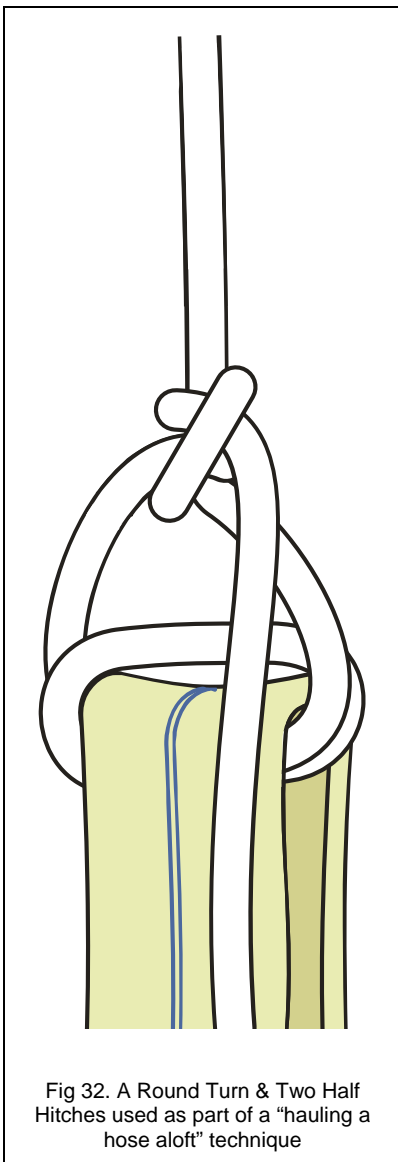

Fig 32. A Round Turn & Two Half Hitches used as part of a "hauling a hose aloft" technique
- Used to attach a general purpose line to a bight of lay flat firefighting hose when hauling a hose aloft. (see figure 32) A long tail is left hanging during hose hauling operations. The tail can then be utilised to secure the hose after hauling. The firefighting branch is attached to the same general purpose line via a clove hitch and half hitch.
- The "round turn" part of the knot can be tied loosely as pictured in figure 32 with the "two half hitches" (clove hitch) dressed and packed tightly. This technique is used if the object requires clearance such as in a lay flat firefighting hose application.